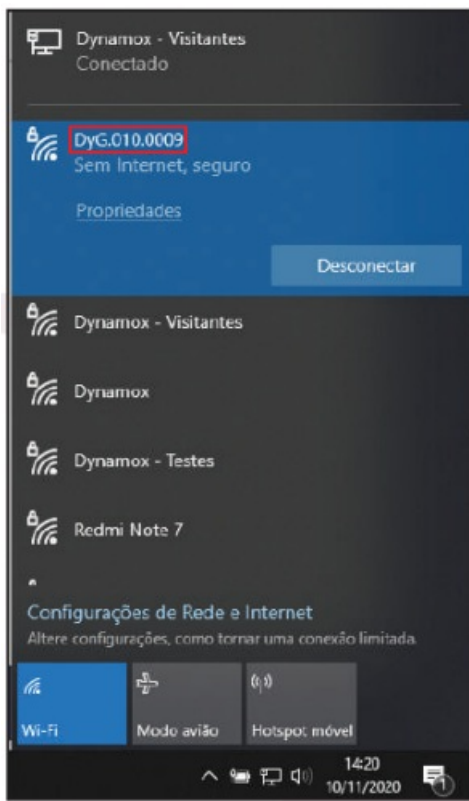

Figure 3 – Wifi network of the device.
2. On a computer close to the DynaGateway, connect to the Wifi network generated by the device (Figure 3), identified as: